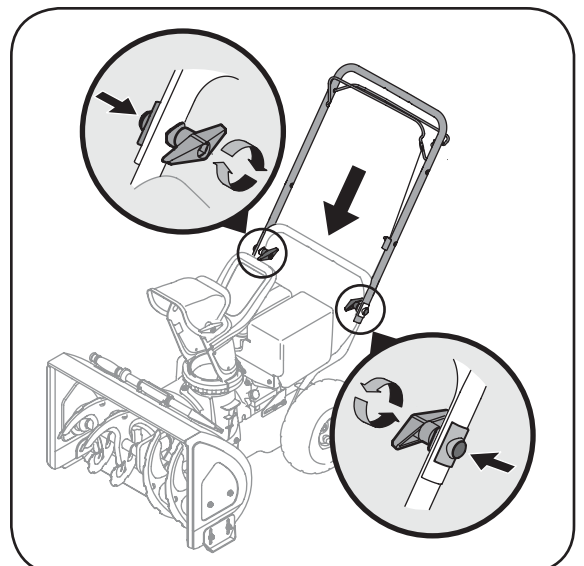

Figure 3
3. Lift the upper handle up and position it over the lower handle, aligning the holes where the wing knobs were removed. See Figure 3.
5. Tighten the wing knobs on each side of the handle. See Figure 3.